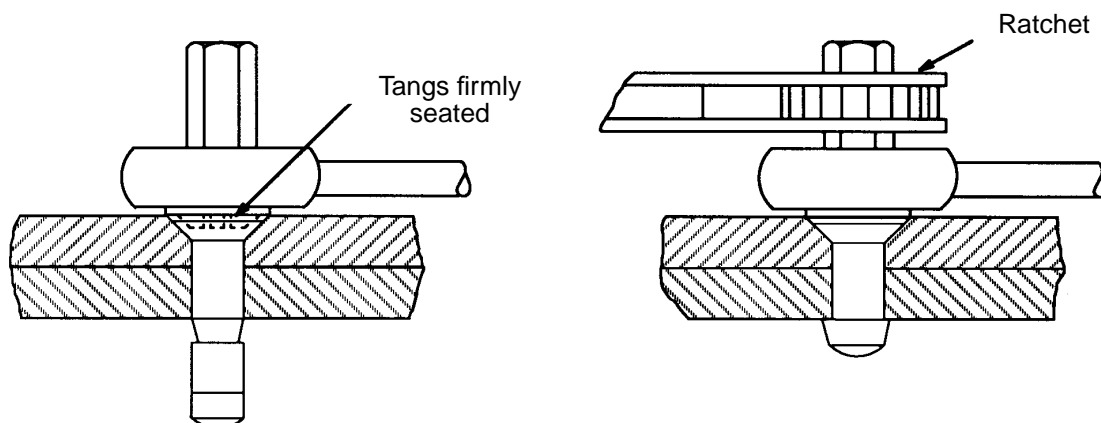

Figure 9 - Installation of Jo-Bolts using Hand Tool Assembly
5.6.2 Install Jo-Bolts using a hand tool as follows (see Figure 9):